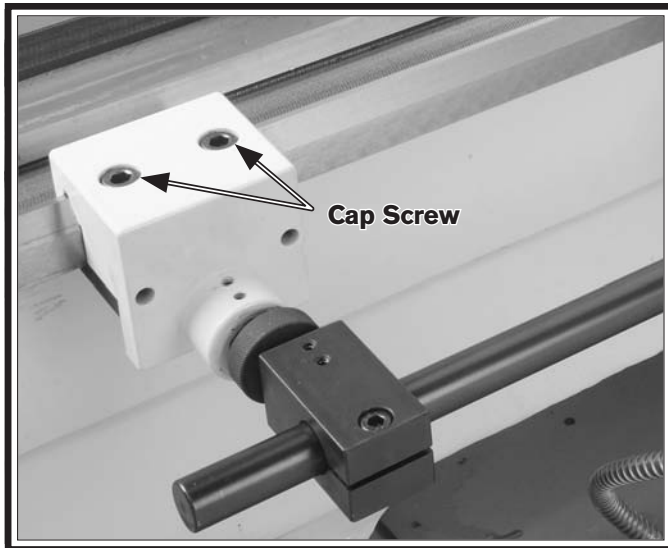

**Figure 25. Scale relationship with workpiece.**
5. Turn the taper angle control knob (see **Figure 24**) until you reach the taper angle or the taper-per-inch setting that you need. Refer to **Figure 25** to select which scale best suits your needs.